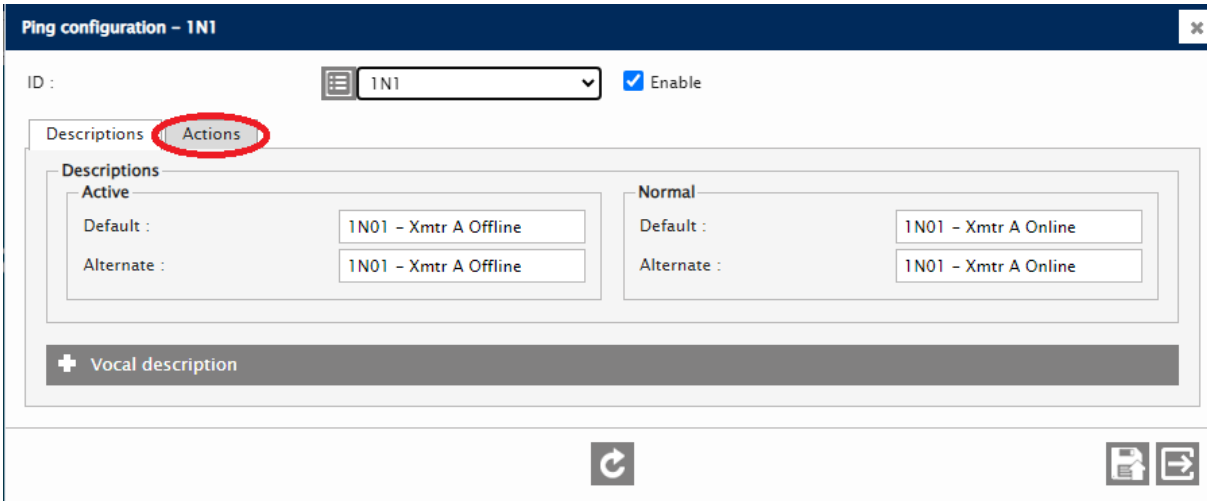

Figure 2-14: Input - Pings configuration – 1N1 screen
- (b) Select the 1N1 checkbox and select the configuration (tools icon) button. The Ping configuration – 1N1 screen will display (see Figure 2-14).